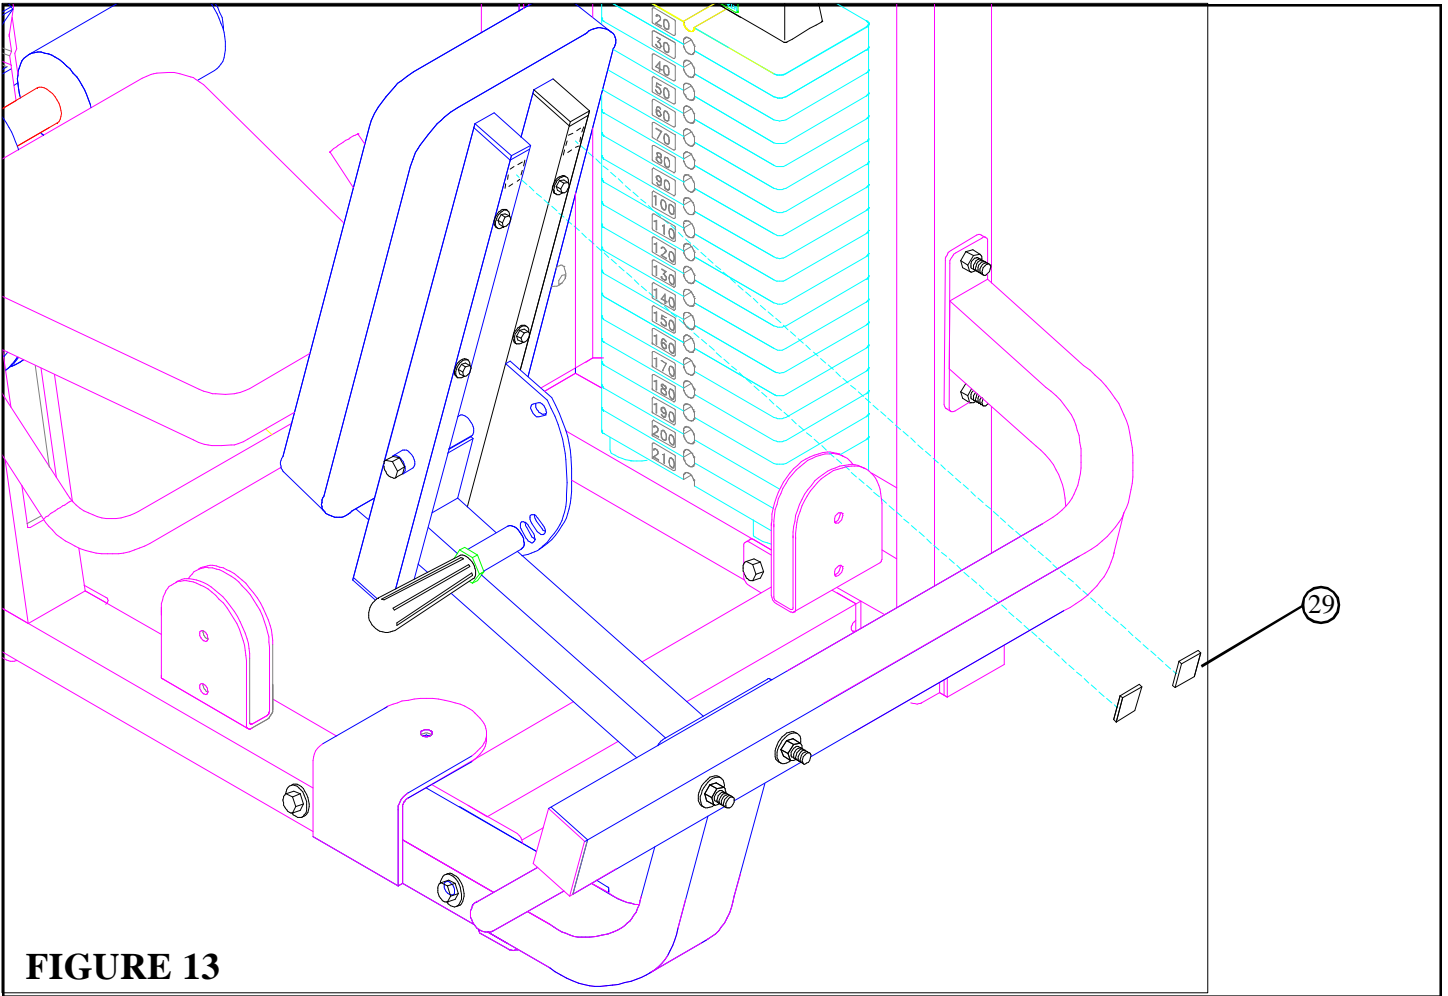

FIGURE 13
- Attach two 1 X 1" GLIDES (29) to the LEFT & RIGHT PAD SUPPORTS approximately where shown in FIGURE 13.